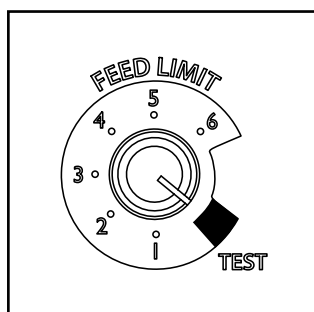

Figure 4.3
3. For your first fire it may be necessary to purge the auger system by putting the feed limit knob to "Test" prior to starting the unit. Figure 4.3. This insures that plenty of fuel enters the burn pot for proper ignition.